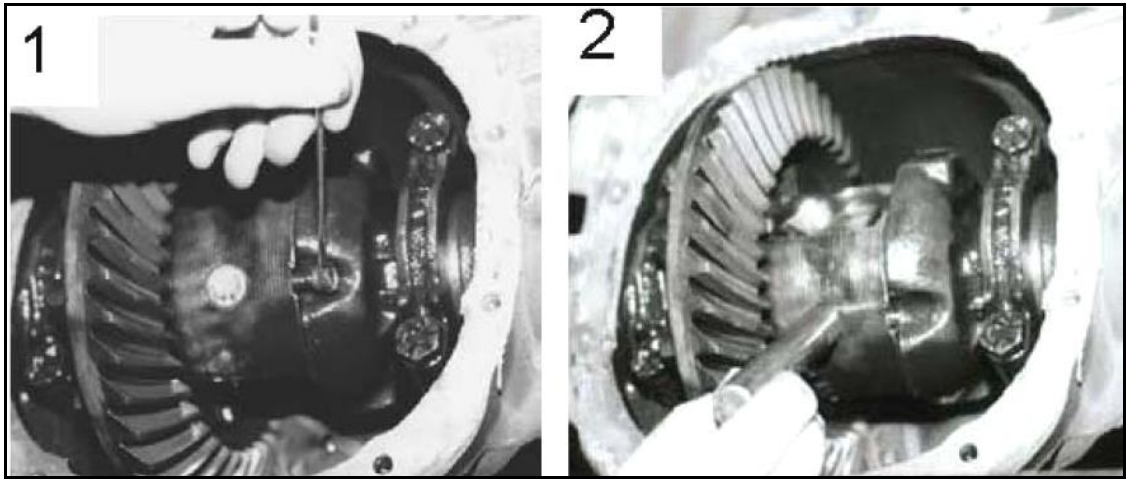

Figure 1, 2: Removal of the differential pin lock bolt, Removal of the c-clips
3. Remove the differential pin lock bolt from the carrier (See Figures 1 and 2). It is best to use a 6 point wrench on this as it may be very tight.